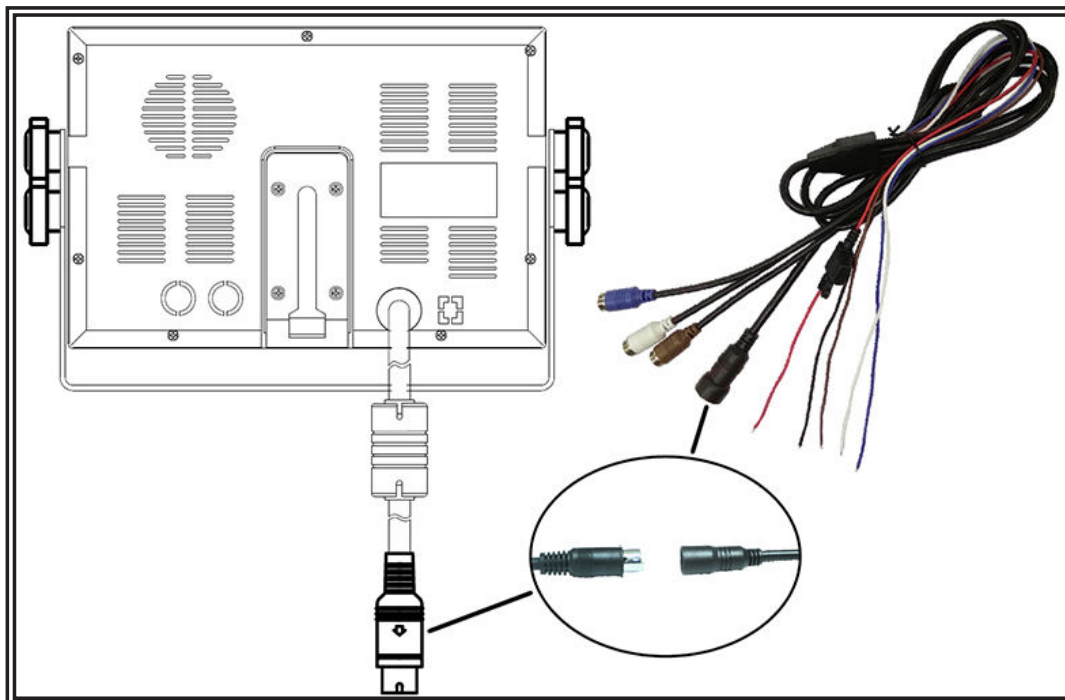

Figure 4
3. Put on the sun-visor and connect the monitor with the AV and power supply conversion cable (Figure 4)
3. Put on the sun-visor and connect the monitor with the AV and power supply conversion cable. (Figure 4)